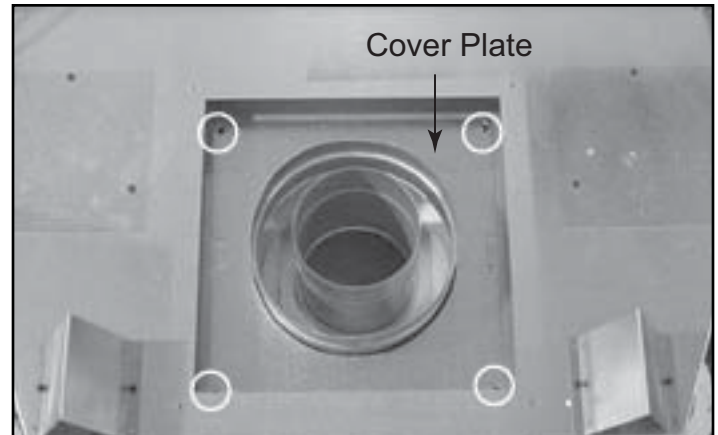

Figure 7.3 Cover Plate, Top Pan
- Remove the cover plate (four screws) from the top pan heat shield and discard. See Figure 7.3.